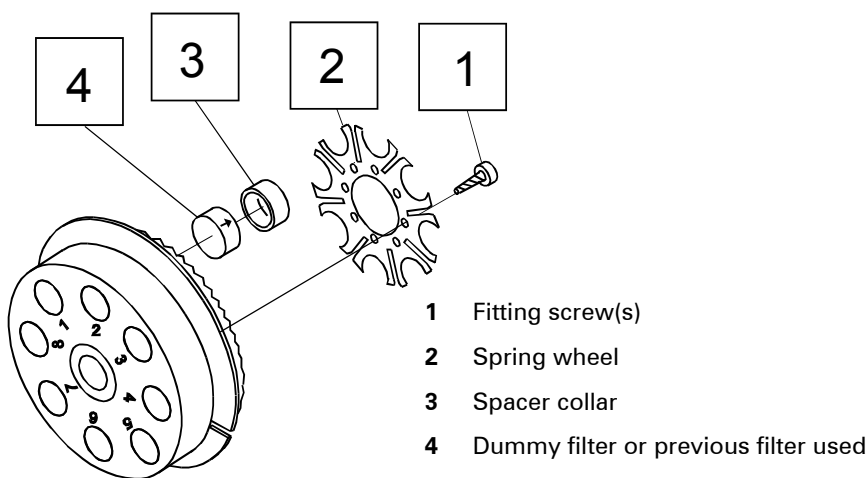

Fig. 4.8b Filters in a filter wheel
9. Undo the fitting screws (Fig. 4.8b:1).
10. Remove the spring wheel (Fig. 4.8b:2).
11. Remove the spacer collar (Fig. 4.8b:3).
12. Remove the dummy filter or previously installed filter used (Fig. 4.8b:4). Install a new filter so that the small arrow on the filter rim points away from the filter wheel. The arrow shows the direction of the light flow.